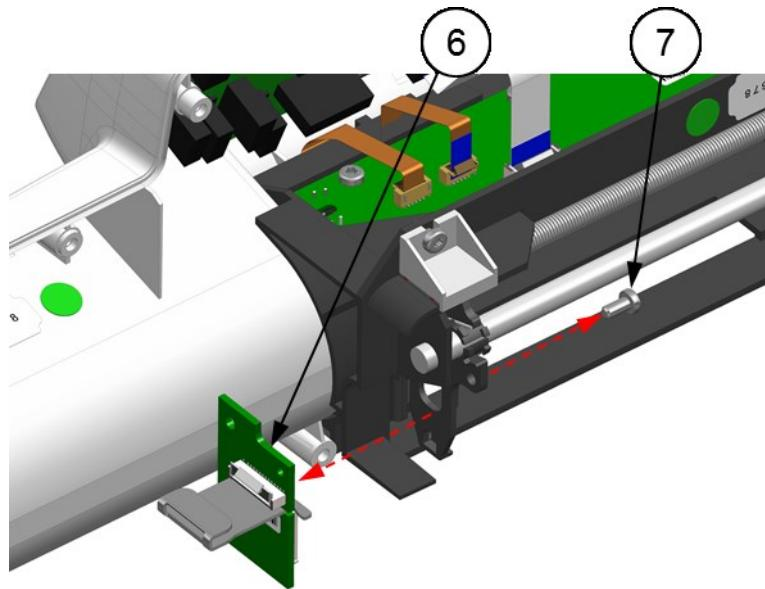
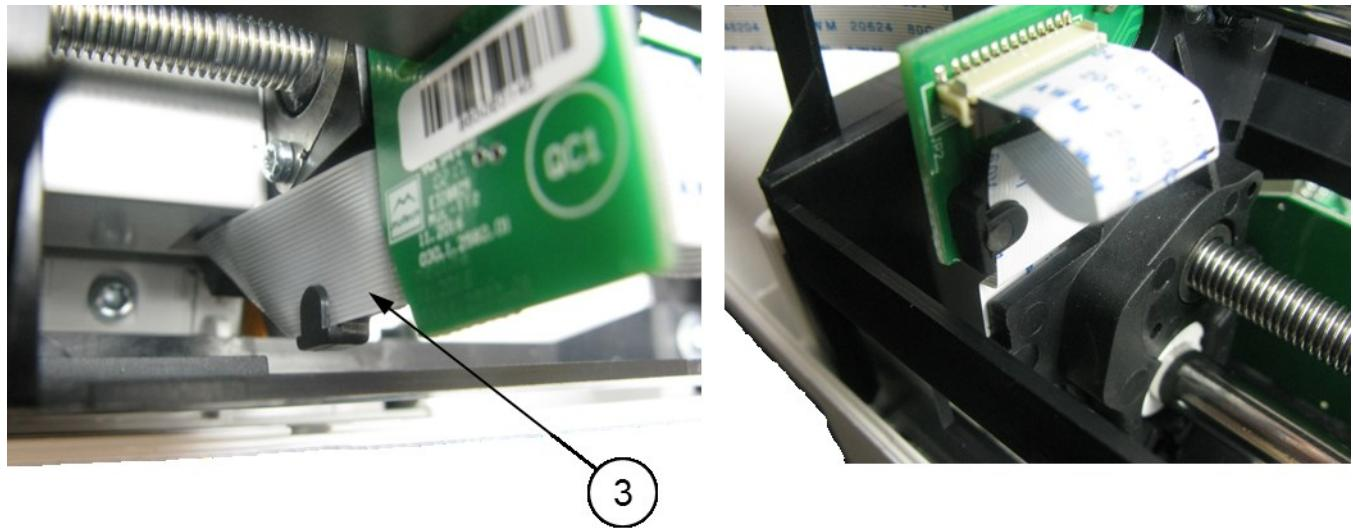

Fig. 52 Drive mechanism direct board removal/installation
Fig. 53 FFC ribbon 0,5x24x300 connection
4. Using the **TB-1** screwdriver unscrew one **3x6 screw for plastic (7)** as shown in Fig. 52.
5. Using Flat-nosed pliers TB-6 remove the **Drive mechanism direct board (6)** by drawing it in from the pin on the **Guide (2)** as shown in **Fig. 52**.
1. Using **TB-6** flat-nosed pliers press the **Drive mechanism direct board (6)** on the **Pin (8)** on the **Guide (2)**. Perform the assembly opposite to the direction indicated by the red arrow in **Fig. 52**.
2. Using the **TA-41** screwdriver with the **TA-42** bit screw one **3x6 screw for plastic (7)**.
3. Plug the **FFC ribbon 0,5x24x300 (4)** and **FFC ribbon 0,5x20x75 (5)** to their sockets in the **Drive mechanism direct board (6)** (**Fig. 53**).